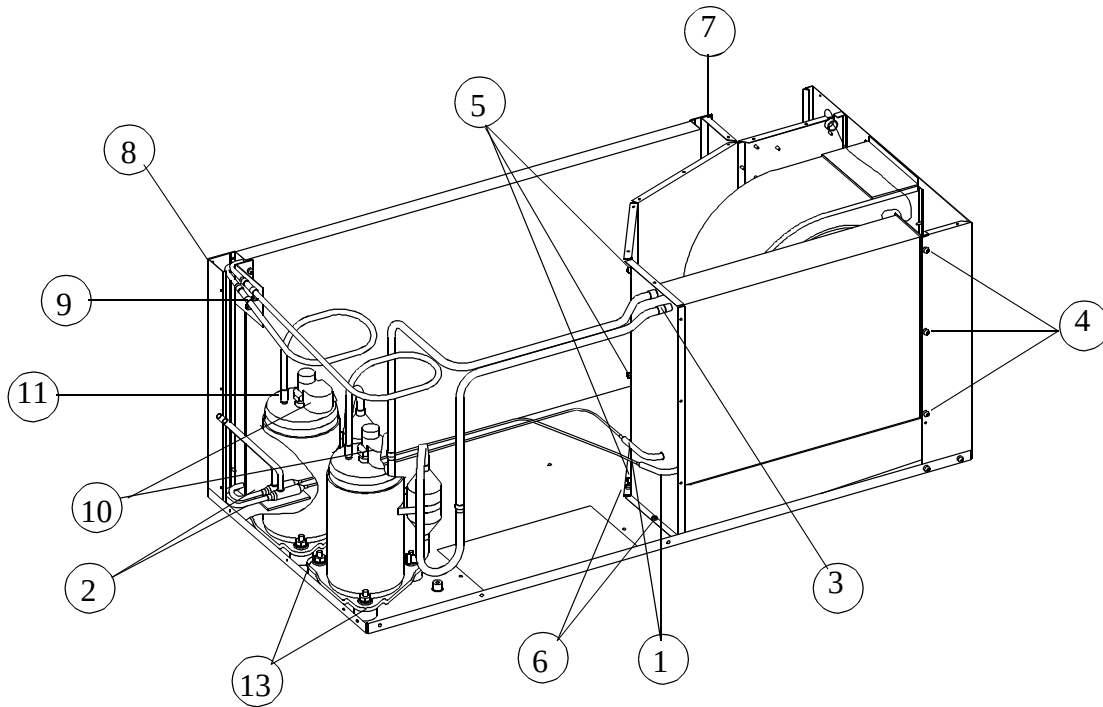

FIGURE 12
5. Unbrazed cap tube assembly/assemblies from points (See #1 and #2, Figure 12). Make note of plumbing and cap tube locations (the replacement tubes will have to go back to the same locations).
3. Unbrazed joints #1 and #3, Figure 12.
5. Remove screws (#4, #5, #6, Figure 12).
6. Upon reassembly, the references made on Figure 12 shall be used for proper reassembly.
2. Remove screws along wirebox side of coil (See #7, Figure 12).
3. Remove corner panel (See Figure 12).
6. Unbrazed discharge and liquid lines at points #2 and #9, Figure 12.
4. Remove terminal caps (See #10, Figure 12).
6. Unbrazed plumbing at points #11 and #12, Figure 12 (protect any wiring and insulation from torch flame).
7. Remove mounting nuts and washers (See #13, Figure 12).